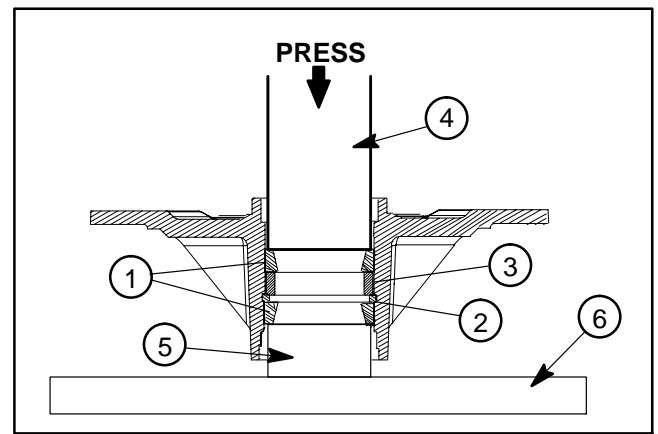

Figure 16
3. Using an arbor press, push the bearing cups into the top and bottom of the spindle housing. The top bearing cup must contact the spacer previously installed, and the bottom bearing cup must contact the snap ring. Make sure that the assembly is correct by supporting the first bearing cup and pressing the second against it (Fig 16).